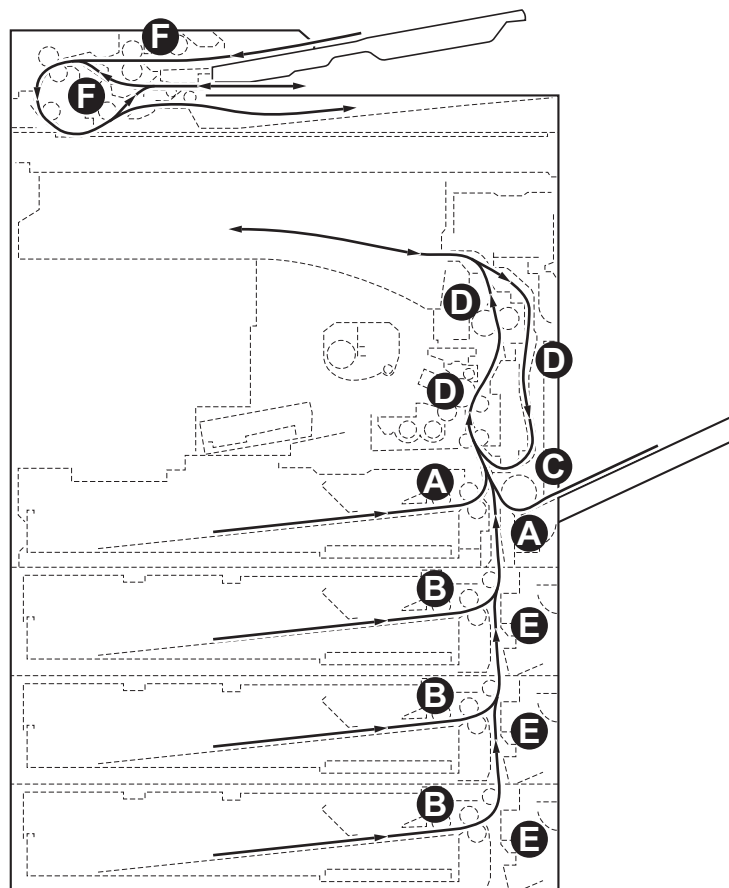

Figure 1-4-1
*: Refer to figure 1-4-1 for paper misfeed indication (see page 1-4-1).